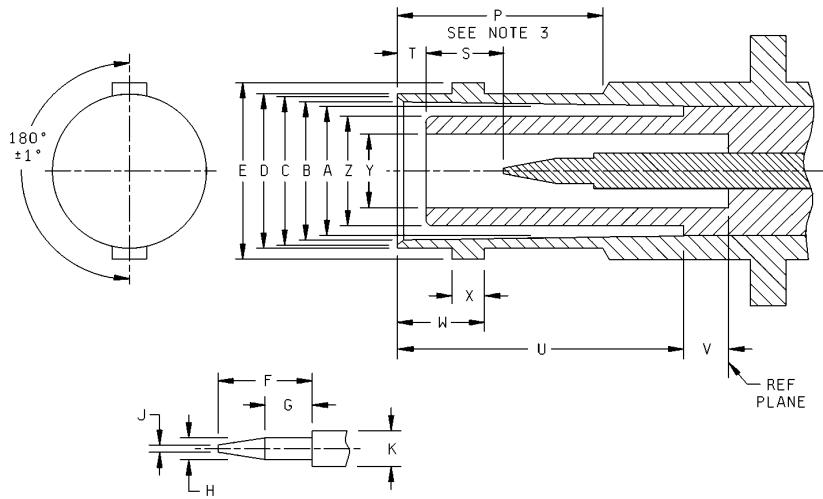

Figure 28: MIL-STD-348B \_ CHG-3 page 89. S = 4.78-5.28 mm, T = 1.55-1.98 mm.
- (c) MIL-STD-348B specifies the allowable pin position. Measure the depth of the dielectric in the connector and use the measurements of the pin and end of connector from the end of the tube to determine if the pin will fall in the acceptable range. Pin depth in dielectric = connector end distance from tube - pin distance from tube - depth of dielectric from connector end, which must be between 4.78 mm and 5.28 mm (S in figure 28). If the pin position falls outside this range print a ground isolation electric break with a different length to adjust the pin position.